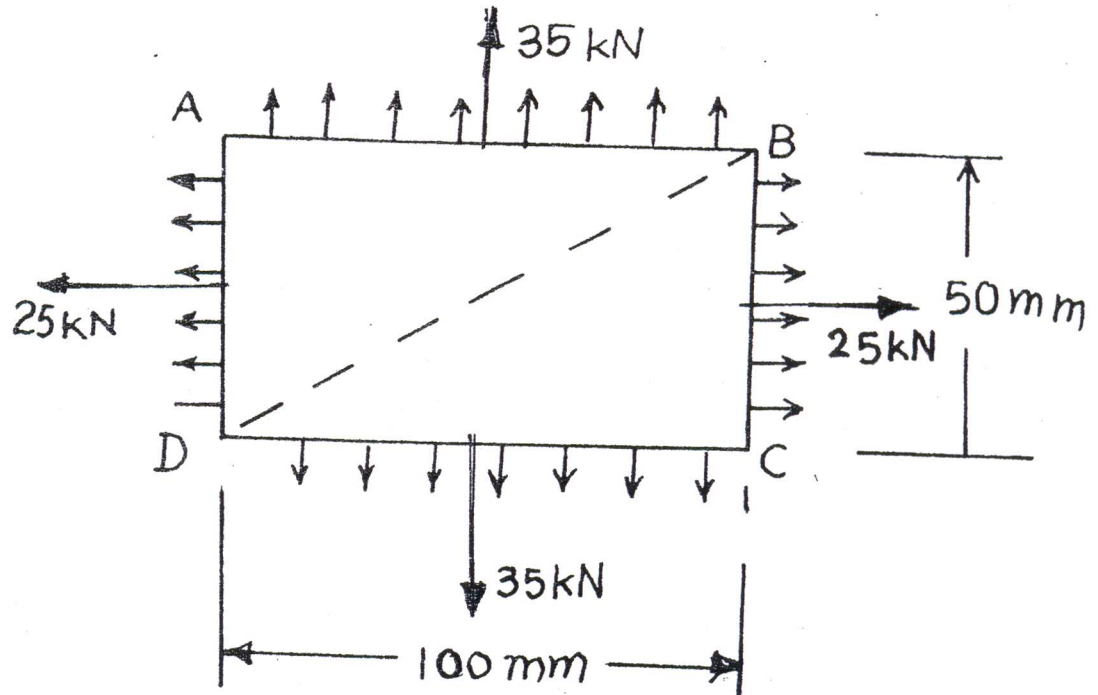

Fig.4 (b)
Q.3. (a) A girder of symmetrical I-section has a web 600 mm × 12.5 mm and flanges 300 mm × 25 mm. The girder is subjected at a bending moment of 300 kNm and a shearing force of 1000 kN at a particular section. Calculate how much of the shearing force is carried by the web, and how much of the bending moment is carried by the flanges. (08)
Q.3. (b) A hollow shaft is subjected to torque of 300 kNm and bending moment of 150 kNm. Internal diameter of the shaft is 0.75 times the external diameter. If the maximum shear stress is not to exceed 100 MPa, find the external and internal diameters of the shaft. (08)
Q.4 (a) A plate is subjected to two mutually perpendicular stresses, one compressive of  $45 \text{ N/mm}^2$ , on the vertical planes and the other tensile of  $75 \text{ N/mm}^2$  on the horizontal planes. The shearing stress, parallel to these directions is  $45 \text{ N/mm}^2$ . It acts in anticlockwise sense on the horizontal planes and in the clockwise sense on the vertical planes. Find the principal stresses and strains, taking Poisson's ratio as 0.3 and  $E = 200 \text{ GPa}$ . (08)
Q.4 (b) A block  $100 \text{ mm} \times 50 \text{ mm} \times 7.5 \text{ mm}$  thick is subjected to uniformly distributed stress field as shown in Fig.4 (b). Compute the normal stress and shear stress developed along plane BD. Also find the maximum shear stress and the corresponding plane. (08)